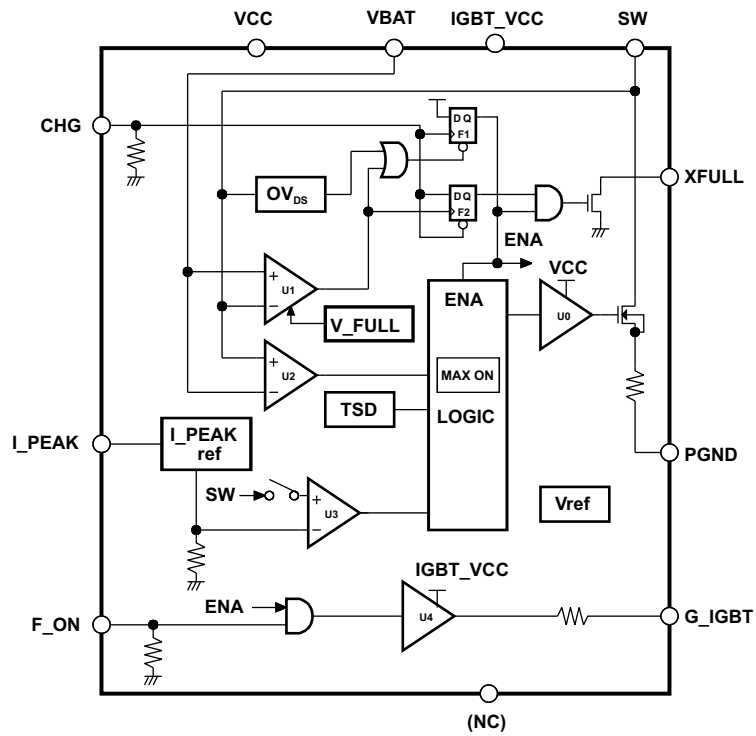
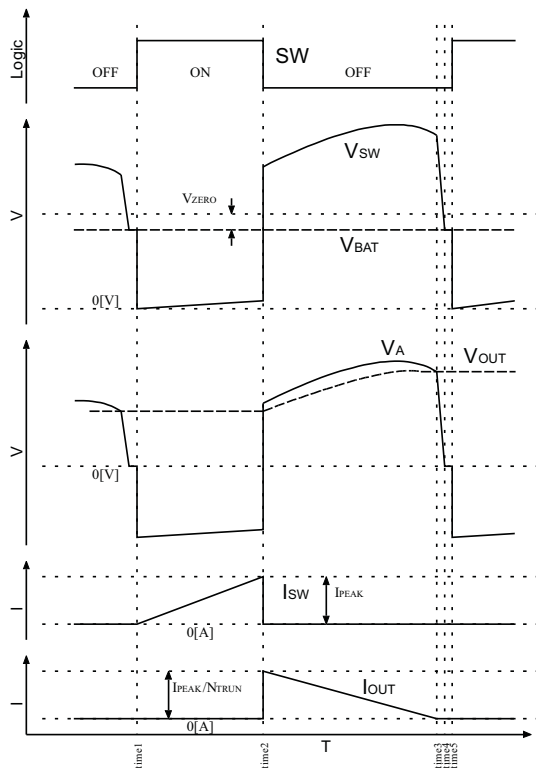
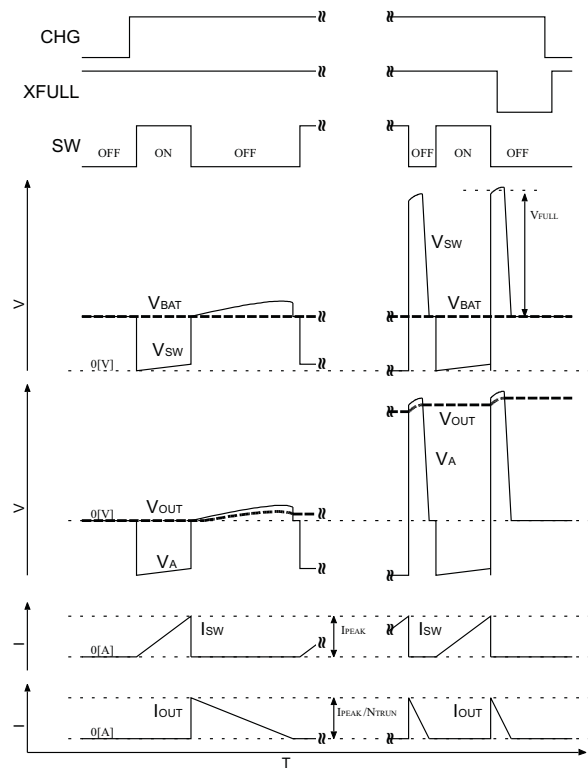

Figure 2. Block Diagram
Figure 5. Timing Diagram at One Switching
Figure 6. Timing Diagram at Beginning/Ending
The device starts charging at timeH, and OVDS protection occurs at TimeI (see Figure 5). At TimeI, XFULL stays H. At TimeJ, the controller detects OVDS protection through the expiration of a timer ends and then sets CHG to low to terminate the operation.
The TPS65562 provides three comparators to control charging. Figure 2 shows the block diagram of TPS65562, and Figure 5 shows a timing diagram of one switch cycle. Note that emphasis is placed on Time1 and Time3 of the waveform in Figure 5.
While SW is ON (Time1 to Time2 in Figure 5), U3 monitors current flow through the integrated power switch from SW pin to GND. When I(SW) exceeds I(PEAK), SW turns OFF (Time2 in Figure 5).
When SW turns OFF (Time2 in Figure 5), the magnetic energy in the transformer starts discharging. Meanwhile, U2 monitors the kickback voltage at the SW terminal. As the energy is discharging, the kickback voltage is increasing according to the increase of VO (Time2 to Time3 in Figure 5). When almost all energy is discharged, the system cannot continue rectification via the diode, and the charging current of IO goes to zero (Times3 in Figure 5). After rectification stops, the small amount of energy left in the transformer is released via parasitic paths, and the kickback voltage reaches zero (Time3 to Time4 in Figure 5). During this period, U2 makes SW turn ON when (V(SW) - VBAT) dips from V(ZERO) (Time5 in Figure 5). In the actual circuit, the period between Time4 and Time5 in Figure 5 is small or does not appear dependent on the delay time of the U2 detection to SW ON.
U1 also monitors the kickback voltage. When (V(SW) - VBAT) exceeds V(FULL), the TPS65562 stops charging (see Figure 6).
In Figure 5 and Figure 6, ON time is always the same period in every switch cycle. The ON time is calculated by Equation 1. L and I_{PEAK} are selected to ensure that t_{ON} does not exceed the MAX ON time (t_{MAX}).